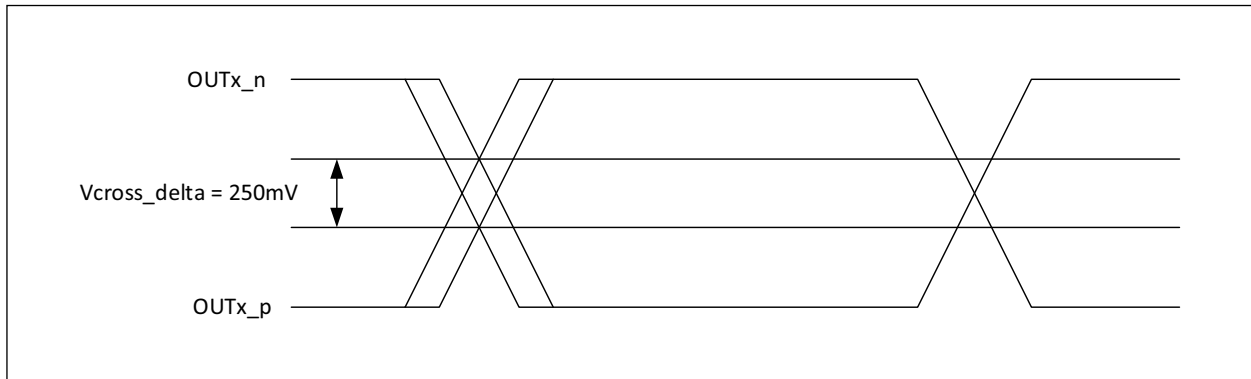

FIGURE 3-2: Single-Ended Measurement Points for Delta Cross Point.
- 10:** Defined as the total variation of all crossing voltages of Rising CK and Falling CK# This is the maximum allowed variance in V_{CROSS} for any particular system. See Figure 3-2.
10: Defined as the total variation of all crossing voltages of Rising CK and Falling CK# This is the maximum allowed variance in V_{CROSS} for any particular system. See Figure 3-2.